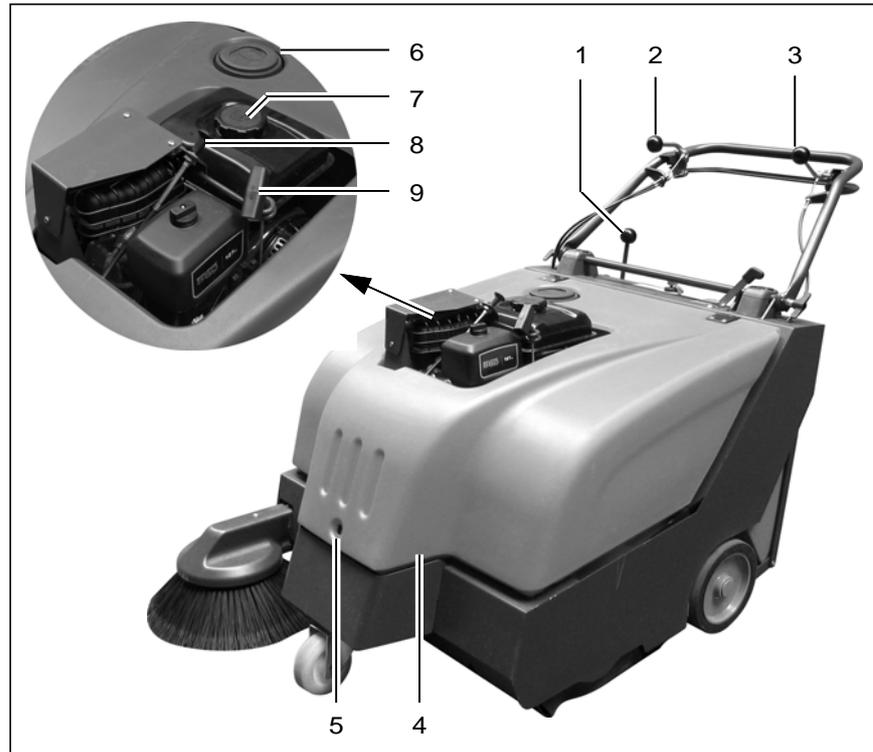

Fig. 7
Unscrew the fuel tank cap (Fig. 7/7) and fill approx. 2.5 l gasoline. Screw the fuel tank cap back on.
### Side brush lever (Fig. 7/1)
### Parking brake lever (Fig. 7/2)
### Folding apron lever (Fig. 7/3)
#### (Fig. 7/4)
The hood should only be opened for maintenance and repair work. In this case, unlock the lock (Fig. 7/5) using a square wrench and pivot the hood up.
### Bypass flap (Fig. 7/6)
### Fuel tank cap (Fig. 7/7)
### Choke (Fig. 7/8)
### Recoil starter (Fig. 7/9)
2. Pull out the choke (Fig. 7/8) in the case of a cold start.
3. Pull the recoil starter cord (Fig. 7/9) until the starter clutch perceptibly engages (slight resistance) and then pull the starter cord (Fig. 7/9) hard and fast to start the engine.
4. Release the starter cord (Fig. 7/9) and let it recoil back into the housing.
5. Then push the choke (Fig. 7/8) back in, slowly.